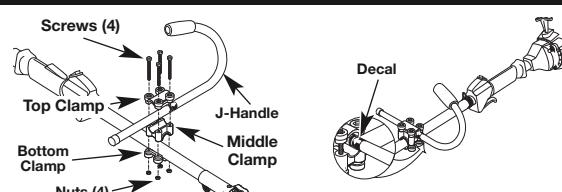

Fig. 1
2. Hold the bottom clamp to the underside of the shaft housing, about 7-8" from the shaft grip (Fig. 1).
3. Place the J-handle between the top and middle clamp pieces (Fig. 1).